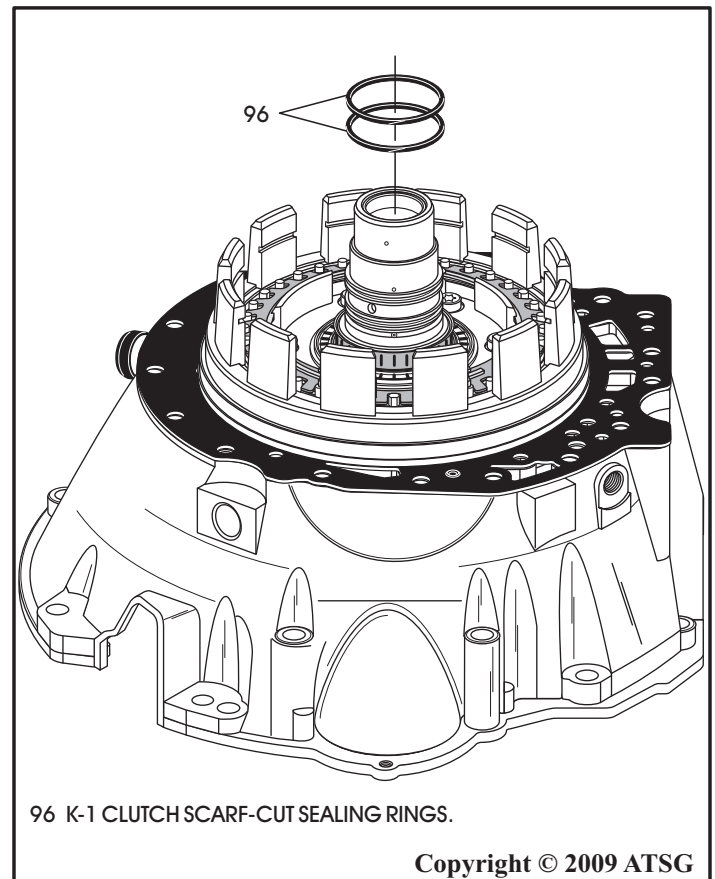

Figure 77
38. Install two new K-1 clutch sealing rings into B-1 clutch housing, as shown in Figure 77.